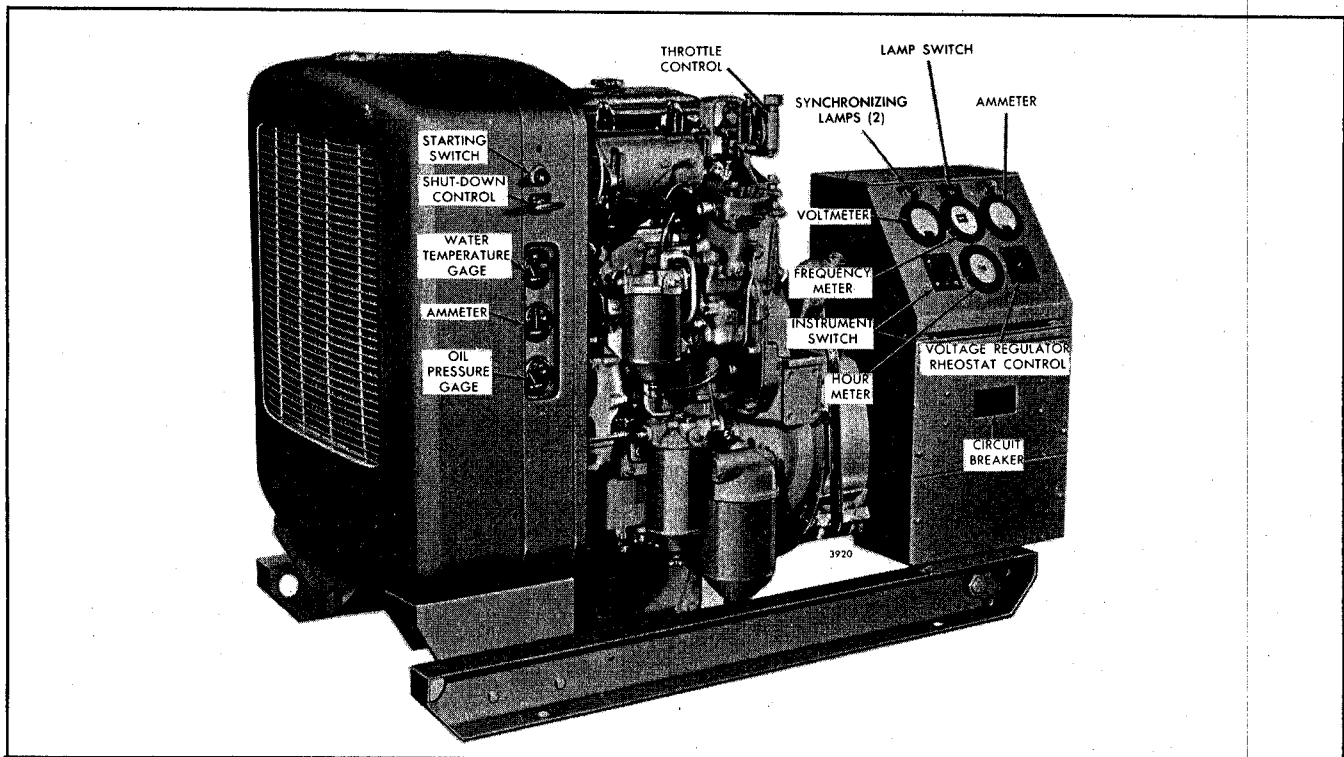

Fig. 1 - Location of Controls on Power Generator Unit
3. Refer to Fig. 1 and place the circuit breaker in the OFF position.
Press the throttle button and turn the throttle control (Fig. 1) counterclockwise to a position mid-
1. Prepare the unit to be paralleled as outlined under Preparation For Starting, Starting, Running and items 1 through 4 under Preparing Unit for Load.
2. Check the voltmeter (Fig. 1); the voltage must be the same as the line voltage. Adjust the voltage regulator rheostat control if the voltages are not the same.
Shift the load from the generator when taking a unit out of parallel operation by turning the vernier throttle knob (Fig. 1) until the ammeter reads approximately zero.